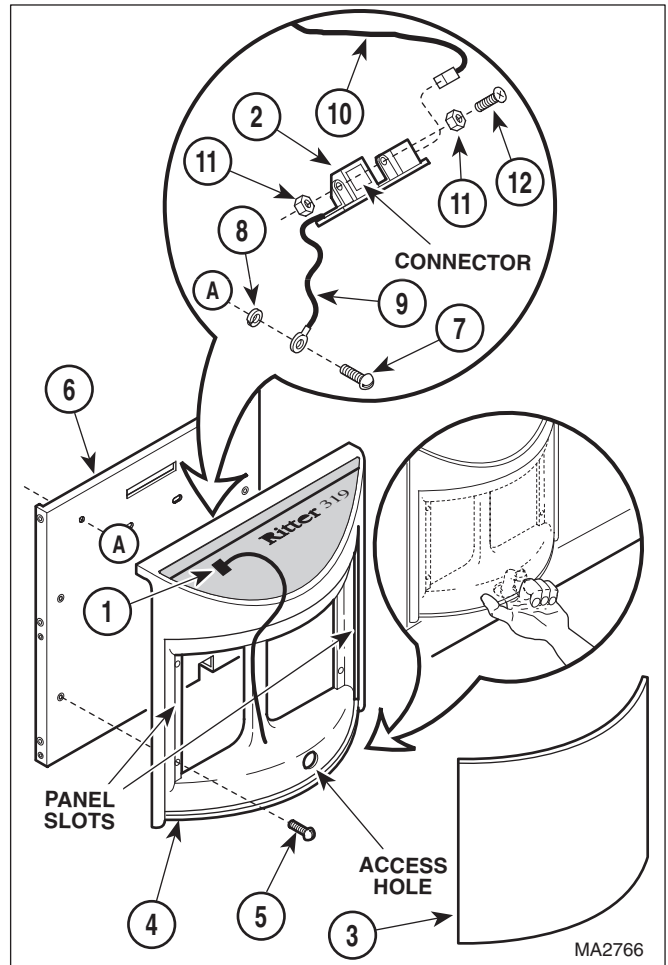

Figure 4-21. Hand Inlet PC Board Removal / Installation
- (1) If connected, disconnect hand control coil cord (1, Figure 4-21) from connector of hand inlet PC board (2).
- (2) Using an index finger, reach thru access hole and push outward on side panel insert (3) until the bottom edge of side panel insert can be grasped by the other hand. Pull outward on bottom of side panel insert (3) until it "pops" off of side panel (4).
- (3) Remove four screws (5) and partially separate side panel (4) from outer shroud (6).
- (4) Remove screw (7), lockwasher (8), and ground wire (9) from outer shroud (6).
- (5) Disconnect modular cord (10) from hand inlet PC board (2).
- (6) Remove two nuts (11) and hand inlet PC board (2) from studs (12).